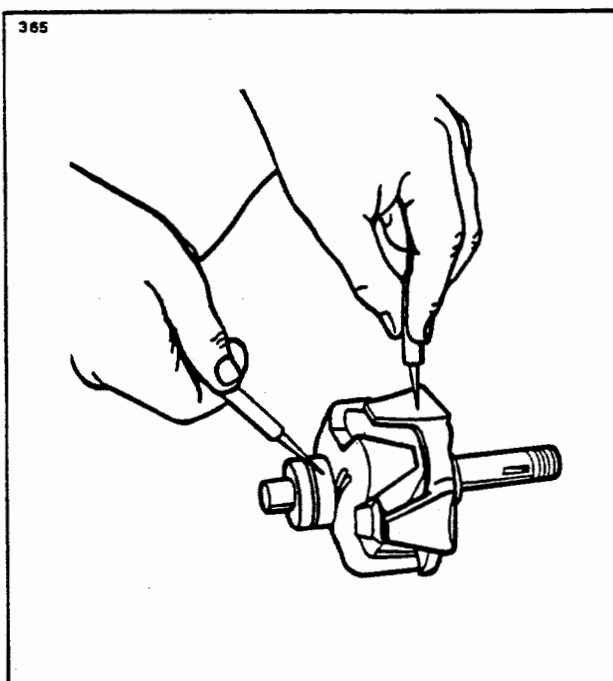
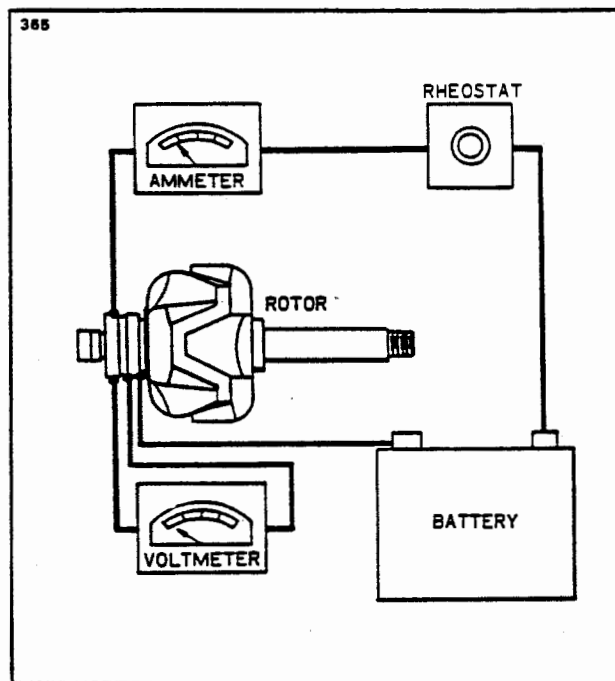

Figure 11-9. Testing Rotor for Grounds
Figure 11-10. Testing Rotor for Shorts
a. **Rotor:** The rotor should be tested for grounded or shorted windings. The ground test can be made with test probes, connected in series with a 110 volt test lamp, an ohmmeter or any type of continuity tester. (Refer to Figure 11-9.) There must not be any continuity between the slip rings and the rotor shaft or poles. To test for shorted turns in the rotor winding, connect a voltmeter, ammeter and rheostat as shown in Figure 11-10, or use an ohmmeter. Rotor current draw and resistance are listed in Paragraph 11-16 and Table XI-II. Excessive current draw or a low ohmmeter reading indicates shorted windings. No current draw or an infinite ohmmeter reading would indicate an open winding.